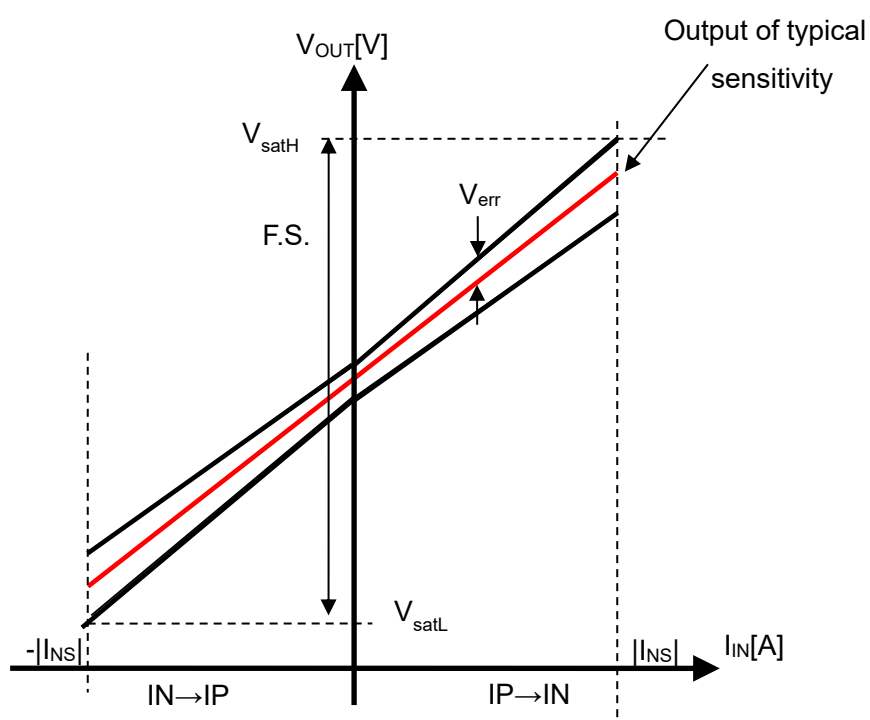

Figure 4. Total Accuracy of CZ-3A03
10.2. Total Accuracy E_{total} [%F.S.] is defined as below (See Figure 4.)